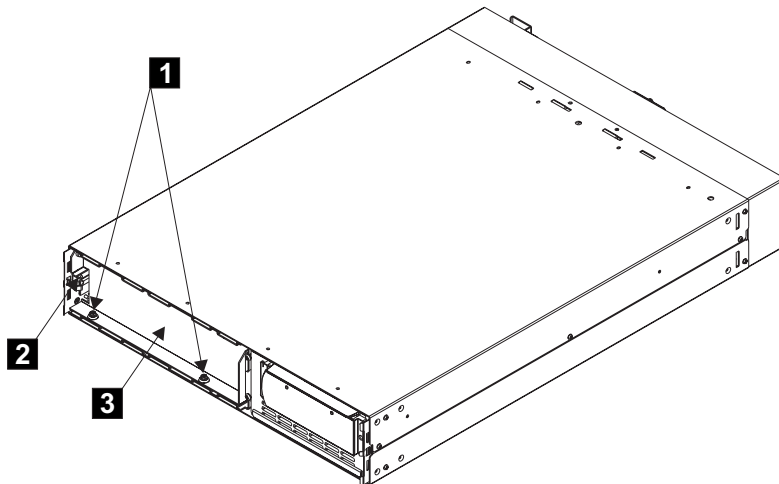

Figure 158. Removing the battery retaining bracket
- a. Remove the two bolts **1**. See Figure 158 on page 318.